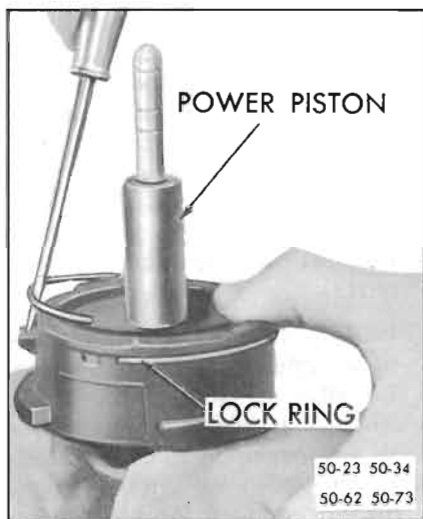

Figure 50-23—Removing Locking Ring From Power Piston
2. Remove the lock ring from the power piston by prying one of the ends out from under the large divided locking lug and then proceed to pull it from under the other two small locking lugs on the power piston. See Figure 50-23.
3. Remove the reaction retainer, piston rod, reaction plate, three (3) reaction levers and air valve spring. Also remove the small reaction bumper and the air valve